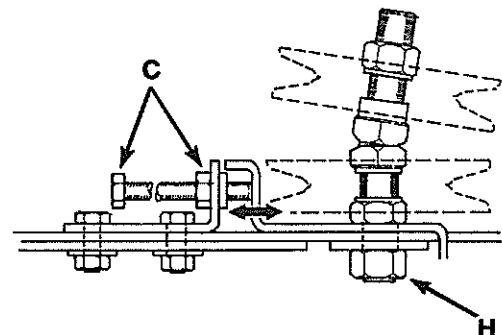

Figure 6-24
- b. Loosen belt adjuster by loosening hex nut (H) and jam nut on capscrew (C, Figure 6-24), and hex nut (H).